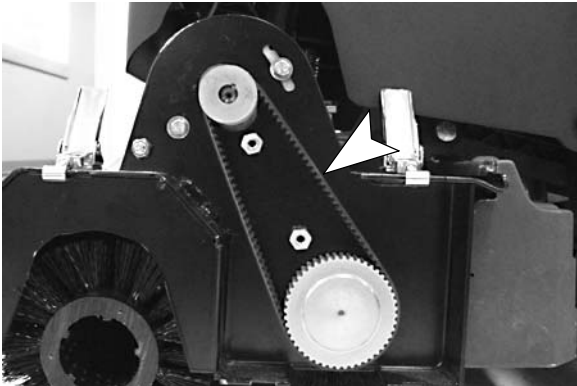

FIG. 42
5. Check brush belt tension. Proper belt deflection should be 0.25 in / 6.35 mm at midpoint, with 12.0-12.8 lb / 5.44-5.81 kg force (Figure 42).